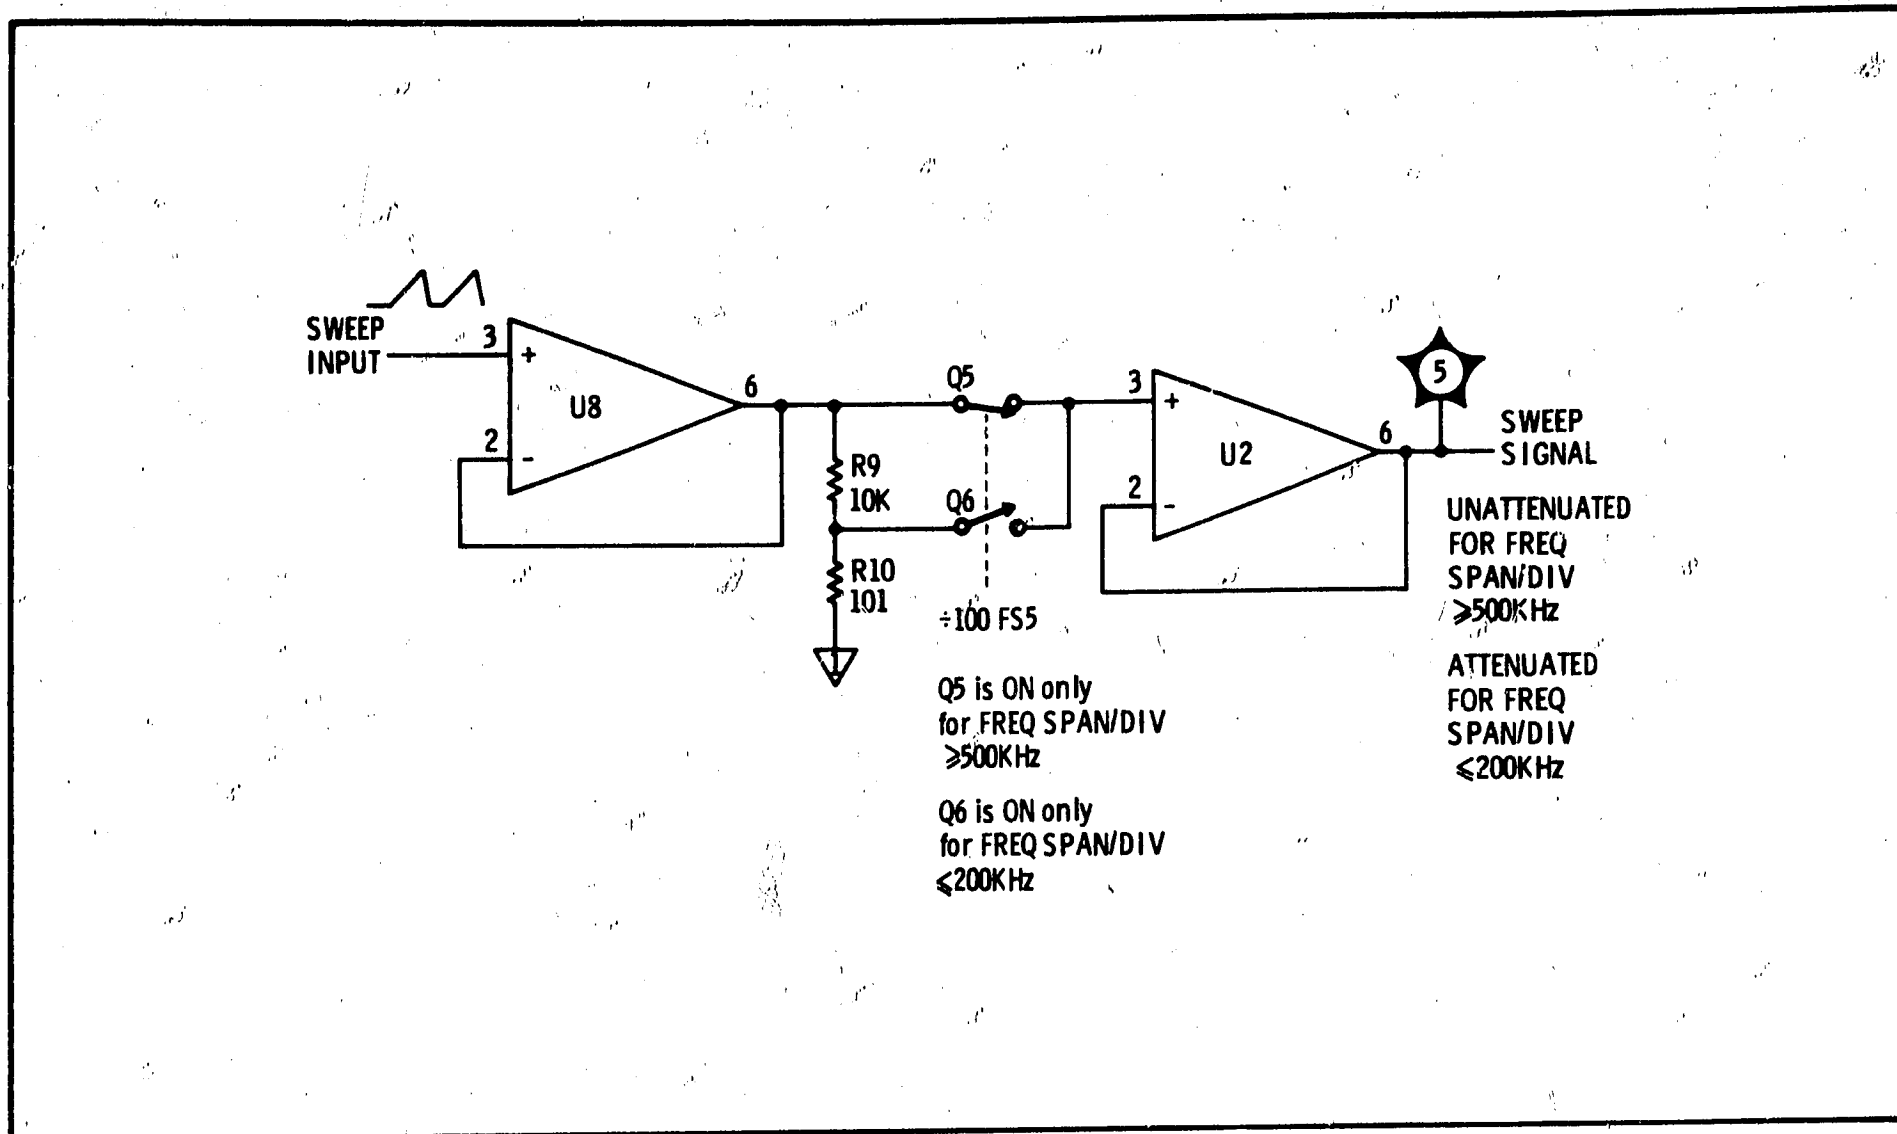

Figure 8-47. Simplified Schematic of Step Attenuator
If the FREQ SPAN/DIV control is set at 500 kHz or greater, the FS5 line is placed at +15V from A1A2S6 (see Service Sheet 9). The +15V turns Q10 OFF turning Q5 ON. It also turns Q6 OFF. The sweep ramp is thus applied to the input of U2 through Q5, unattenuated (see Figure 8-47). If the FREQ SPAN/DIV control is set at 200 kHz or less, the FS5 line is open (OV). The OV level on the FS5 line reverse biases CR4 permitting Q10 to turn ON, turning Q5 OFF. It also turns Q6 ON providing a sweep ramp signal path through divider network R9 and R10 and through Q6 to the input of U2. In this case the amplitude of the sweep ramp is divided by 100. (See Figure 8-47).